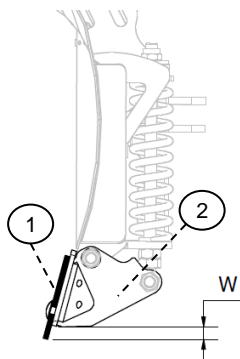

Figure 14
It is important to check wear and tear on the cutting edges daily. There are many factors that affect this. These factors include ploughing speed, substrate, cutting angle, support plates and adjustment of the floating mode. It is therefore important to maintain the distance $W \geq 10 \text{ mm}$ between the lower edge of the cutting edges (1) and the lower edge of the steel holder (2) (see Figure 14).